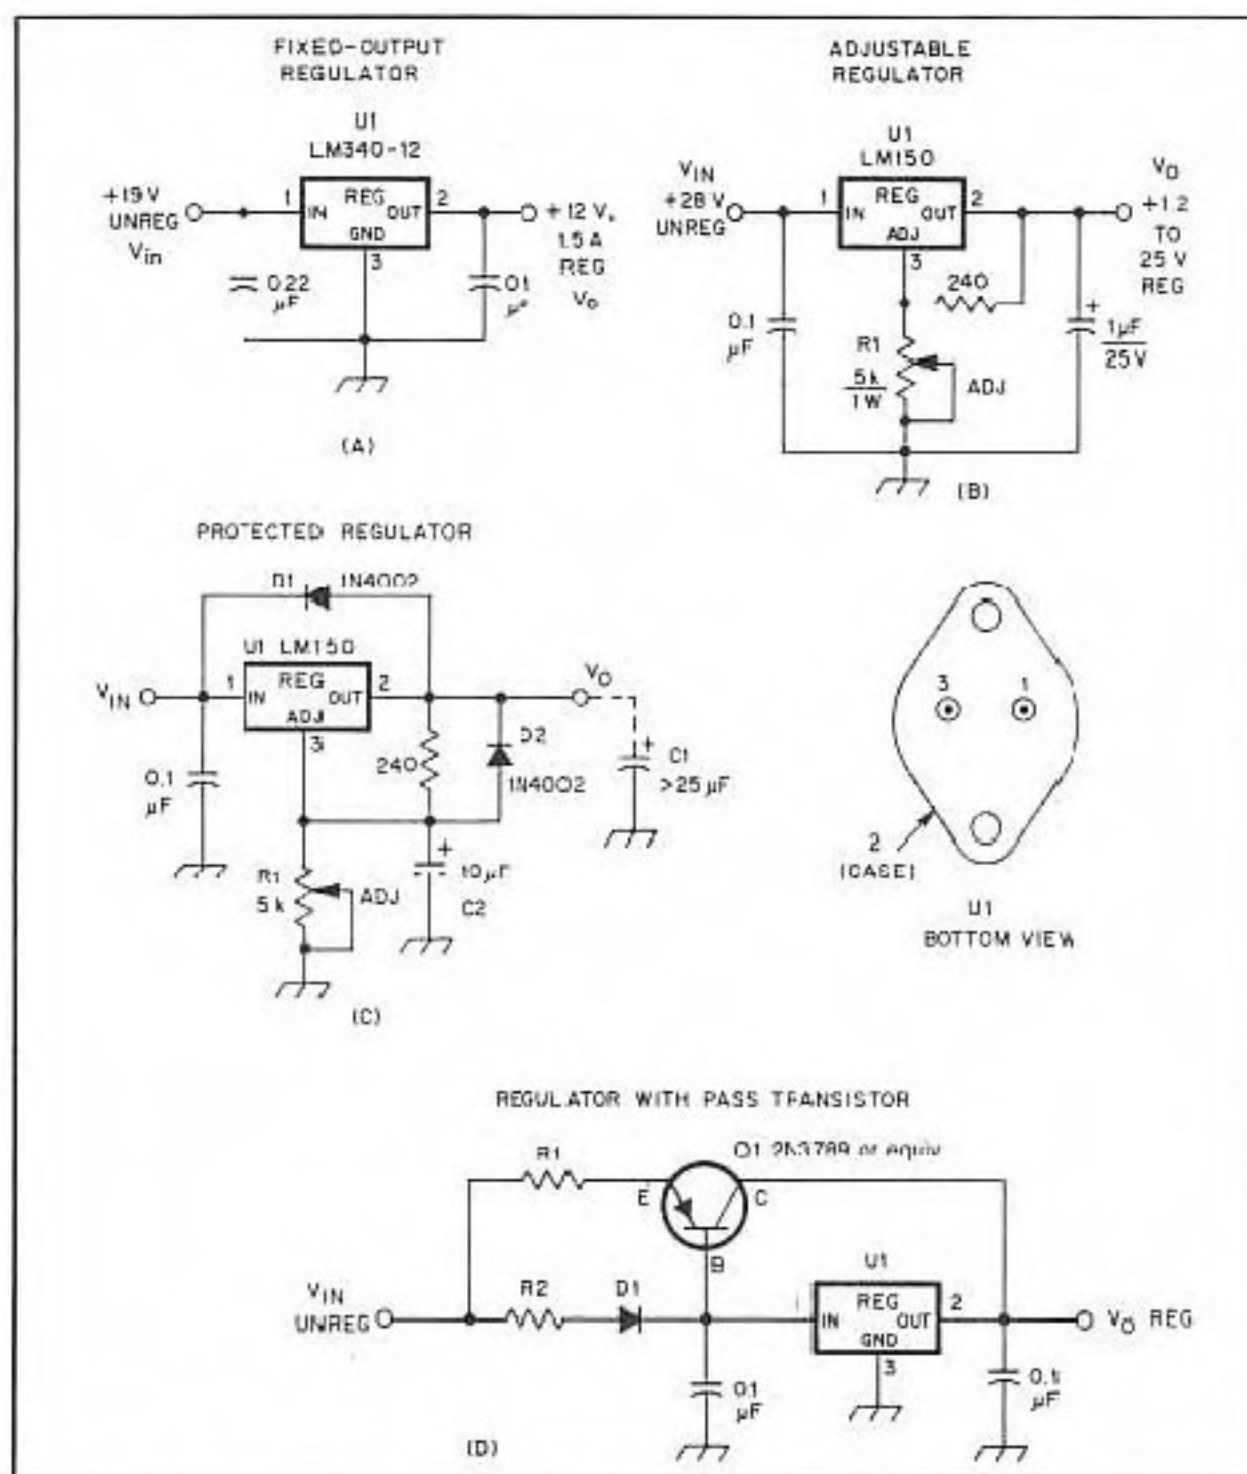

Fig 2—Circuits for three-terminal regulator ICs. These circuits are explained in the text.
Four basic considerations exist for selecting a regulator: (1) the maximum required output current; (2) required output voltage; (3) unregulated input voltage; and (4) ambient temperature. When you know the answers to items 1 and 2, you may consult the manufacturer's data sheets and make a device selection. Always choose a regulator that has a power dissipation (P_D) greater than the maximum load current presented by your equipment. Fig 2 shows some simple circuits for three-terminal regulators. The example at A represents a standard fixed-voltage regulator. ICs are available for various standard output voltages at various maximum-current ratings, such as 5 V, 8 V, and so on. They are also available for positive or negative power supplies. Fig 2B shows a typical adjustable regulator of the type that might
be used for a bench supply. An adjustable regulator with protective diodes (D1 and D2) is shown at C of Fig 2. The diodes are recommended when the output capacitance (C1) is 25 μF or greater. This may be the situation when the equipment used with the power supply contains a high-value filter capacitor at the voltage-input terminal. The low internal resistance of the capacitor can cause high-amperage spikes when shorted (in excess of 20 A), and this can destroy the regulator IC. D1 protects U1 against input short circuiting (C1), and D2 protects U1 against output shorting (C2). Under the respective shorting conditions, C1 and C2 will discharge through the IC and destroy it.